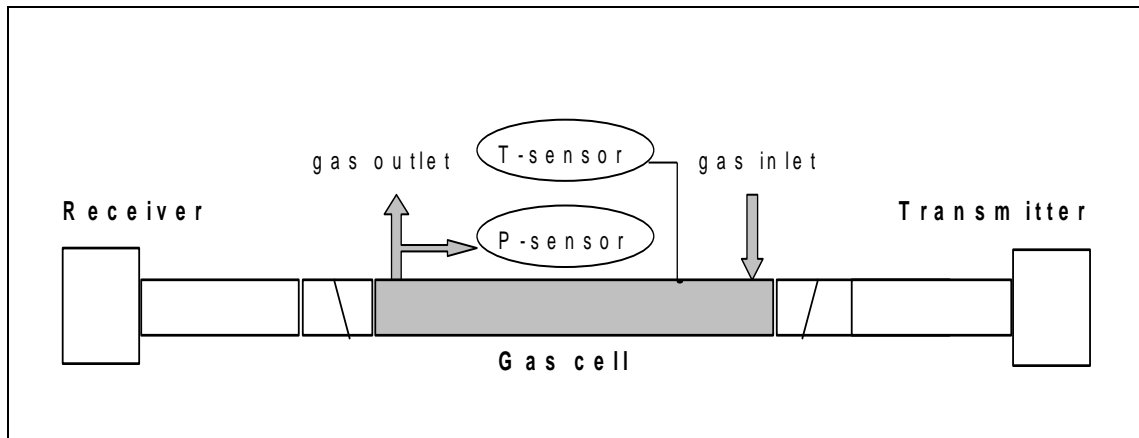

Figure 5-1: Calibration cell with monitor connected
2. Connect the transmitter and receiver units to the test cell as shown in Figure 5-1. Run the service program (ref. Chapter 4.1 for start-up).